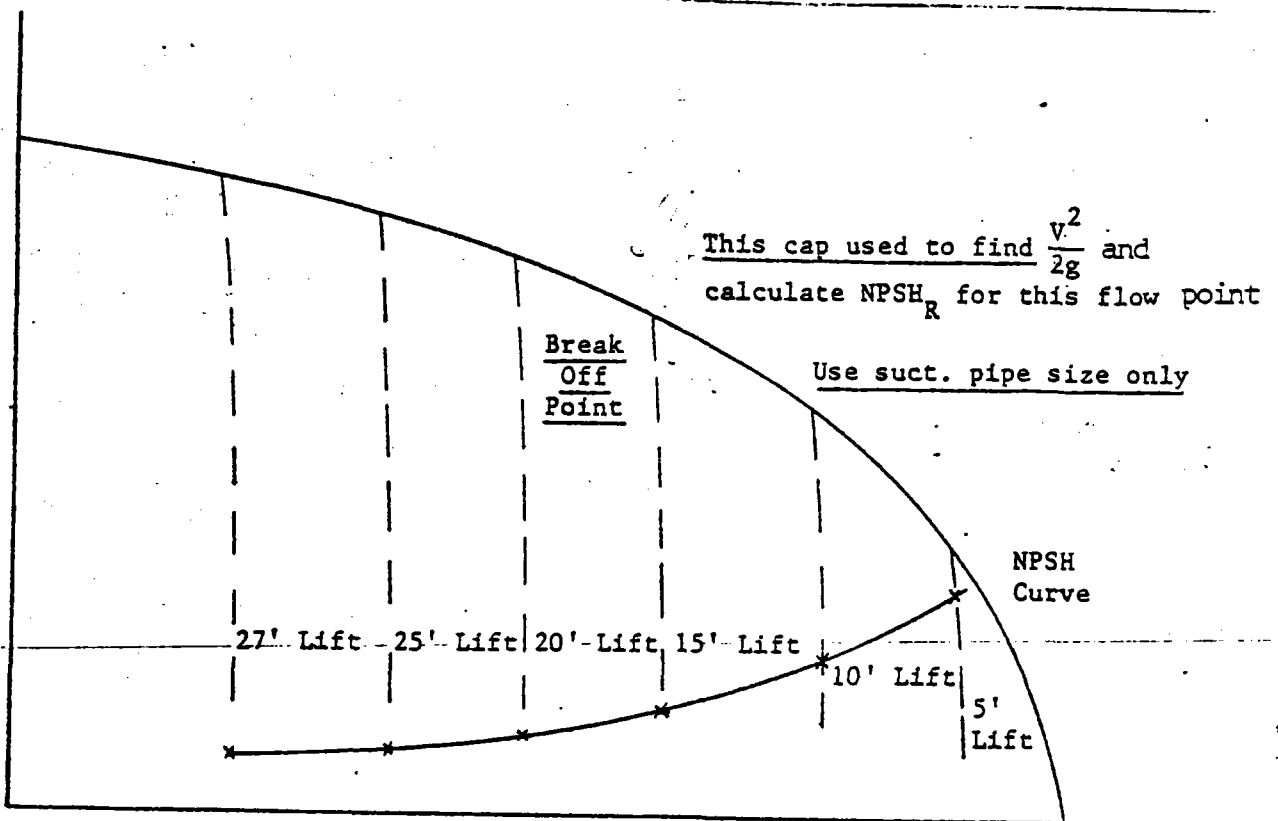

Fig. 1
3. Plot cold water test (Refer to Fig. 1)